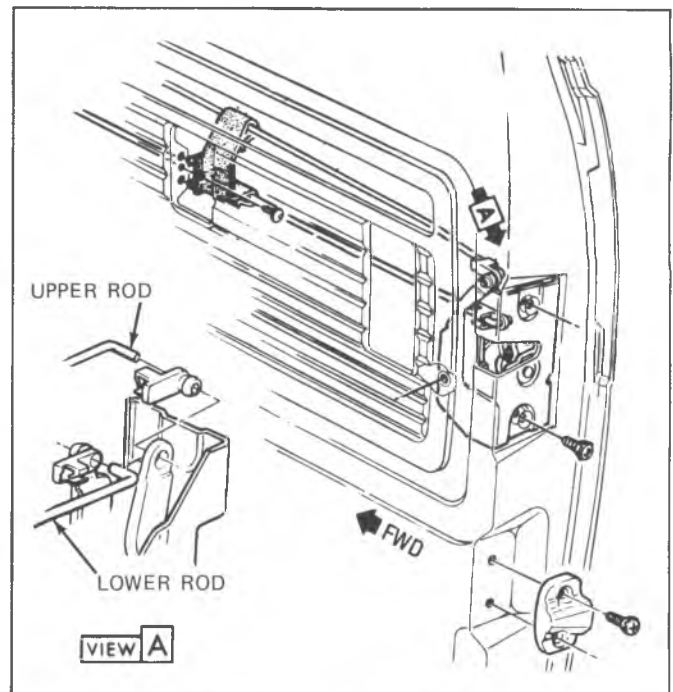

Fig. 2D-123—Sliding Door Rear Latch
3. Disconnect rear latch rods from front latch assembly, shown in figure 2D-121.